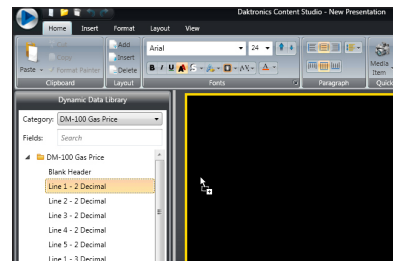

Figure 11: Place Price Field in Layout
15. Drag these fields onto the layout, as shown in **Figure 11**.